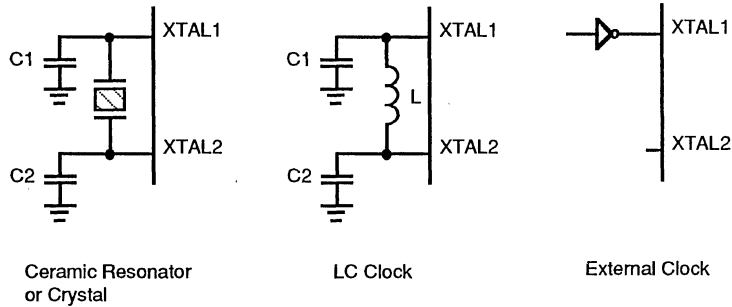

Figure 16. Oscillator Configuration
cut, 1 MHz to 16 MHz max, and series resistance (RS) is less than or equal to 100 Ohms. The crystal should be connected across XTAL1 and XTAL2 using the recommended capacitors ($10 \text{ pF} < C_L < 300 \text{ pF}$) from each pin to ground (Figure 16).